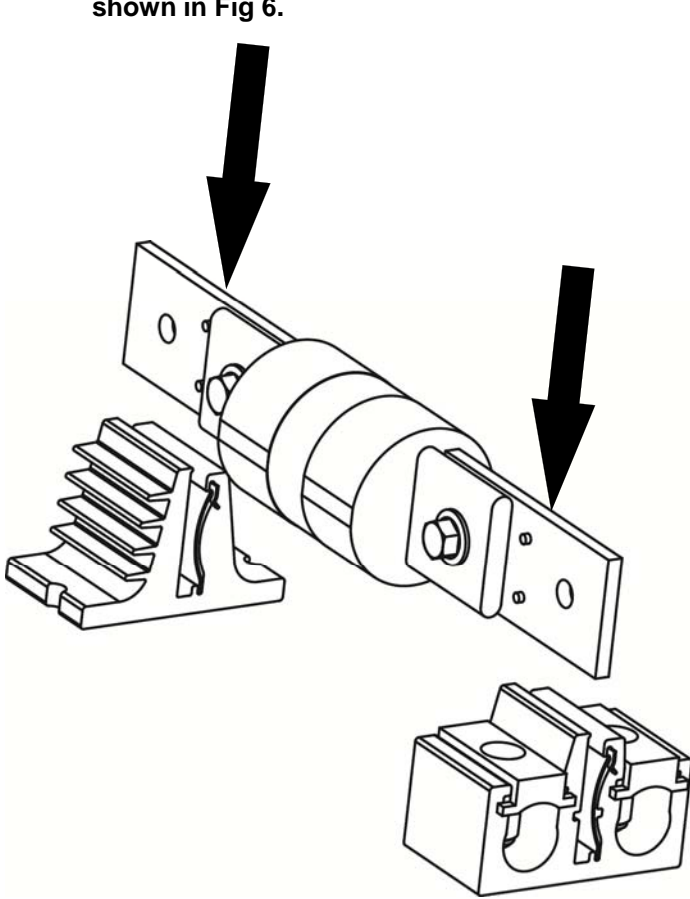

Fig. 3
- Align "J" Fuse assembly over line and load base as shown in Fig. 3. (For a 240 volt switch, reposition the load base to J fuse position).